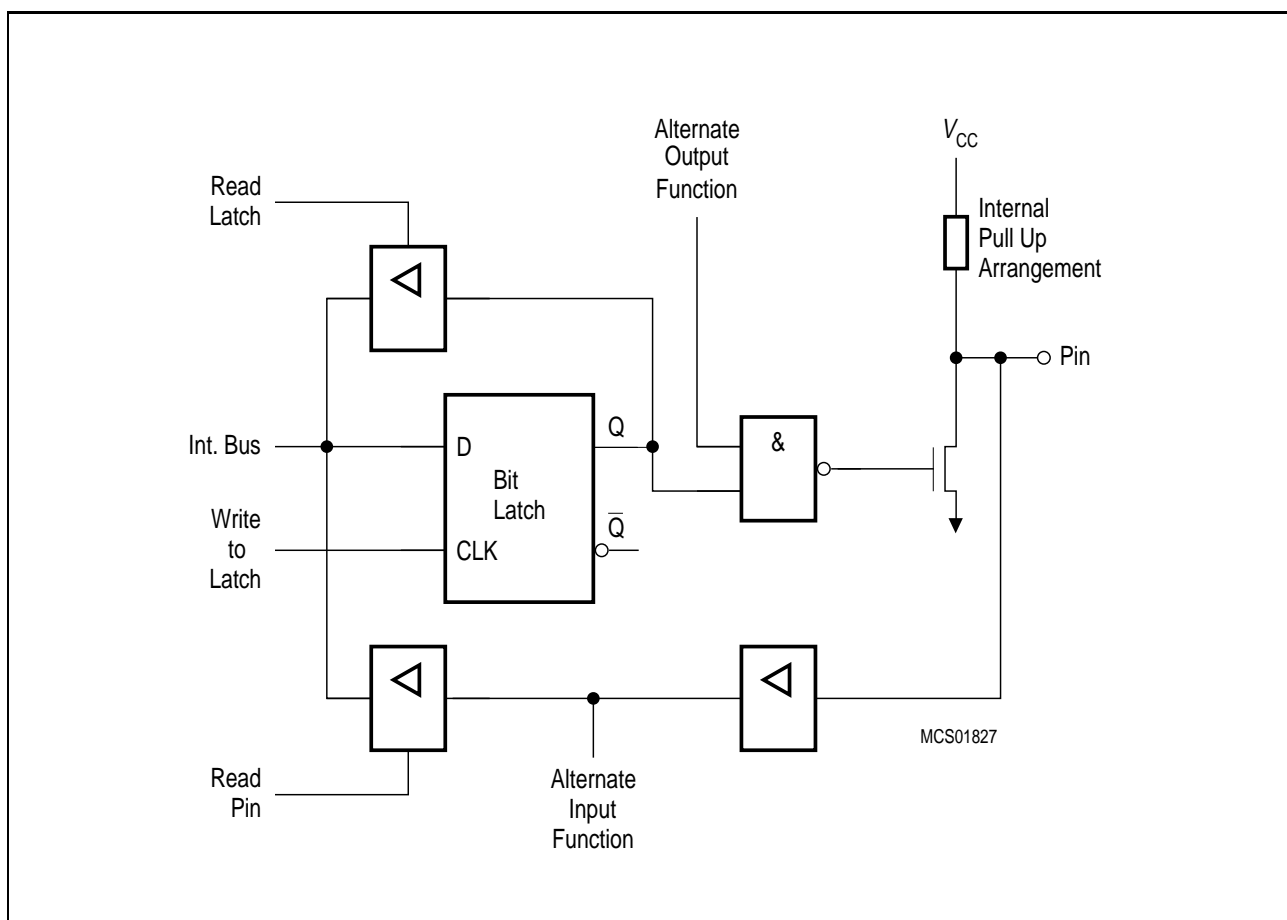

Figure 6-5
Figure 6-5 shows a functional diagram of a port latch with alternate function. To pass the alternate function to the output pin and vice versa, however, the gate between the latch and driver circuit must be open. Thus, to use the alternate input or output functions, the corresponding bit latch in the port SFR has to contain a one (1); otherwise the pulldown FET is on and the port pin is stuck at 0. After reset all port latches contain ones (1).